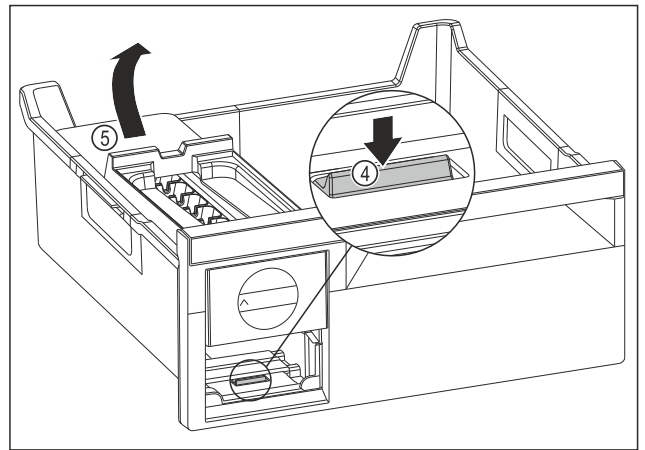

Fig. 130
- ▶ Removing the EasyTwist-Ice body: Use your finger to push the tab Fig. 130 (4) down and use your other hand to lift the EasyTwist-Ice body Fig. 130 (5) from behind at the same time.